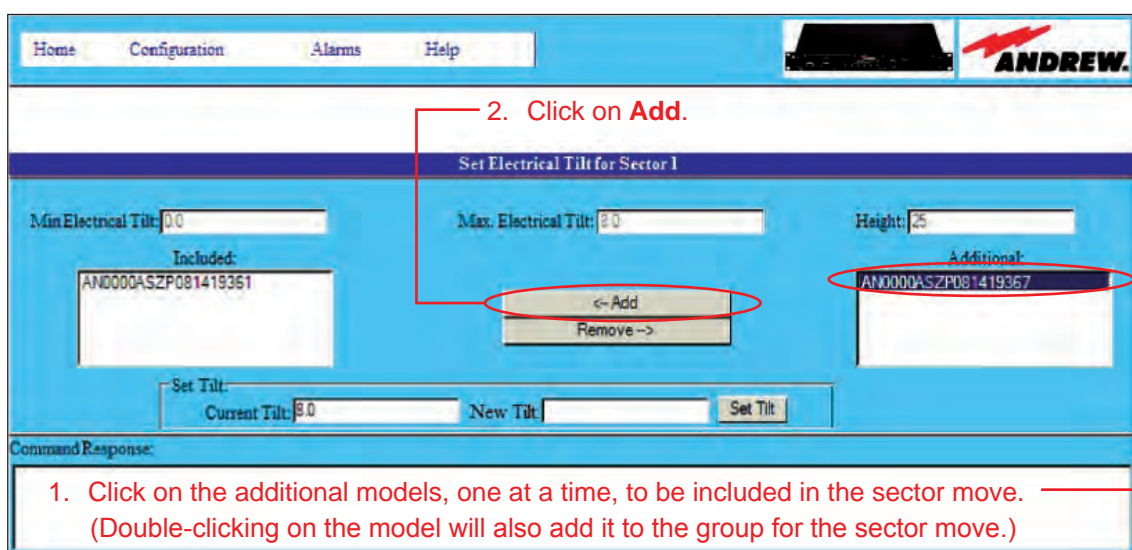

Figure 14-2. Adding Models To Be Included In The Sector Move.
Notice that the device that was selected to be included in the sector move is highlighted and displayed in the **Included** box. This box displays a list of all devices that will be included in the sector move. Initially, this box contains only the antenna that was selected from the controller's main interface screen. The minimum, maximum, and current tilt for this device is displayed on this screen (Figure 14-2).
3. Select the device, and click on **Add** (Figure 14-2). (Alternately, double-click on the device from the **Additional** box to move the device to the **Included** box.)